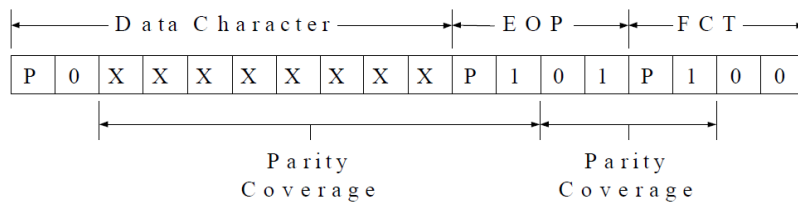

FIGURE 4.
**Parity error** a parity bit is assigned to each data or control character to support the detection of transmission errors. The parity bit covers the the previous eight bits of a data character or two bits of a control character, and the current data-control flag. See figure 4 below.